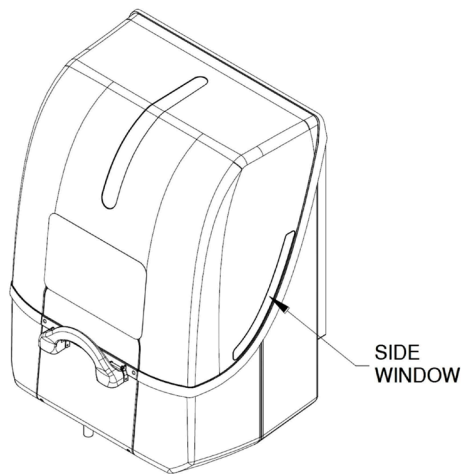

FIGURE 15
- A. Visually inspect Cartridge status through Side Windows on Lid Assembly (Ref Figure 15).